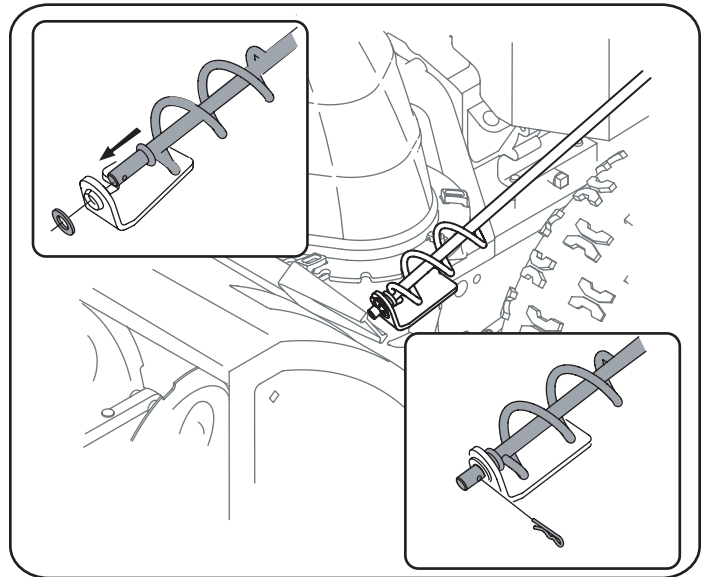

Figure 5
- b. Insert the end of the chute directional control into the lower bracket and secure with the flat washer and hairpin clip just removed. See Figure 5. If necessary, the lower bracket can be adjusted. Refer to Chute Bracket Adjustment in the Service & Maintenance section.